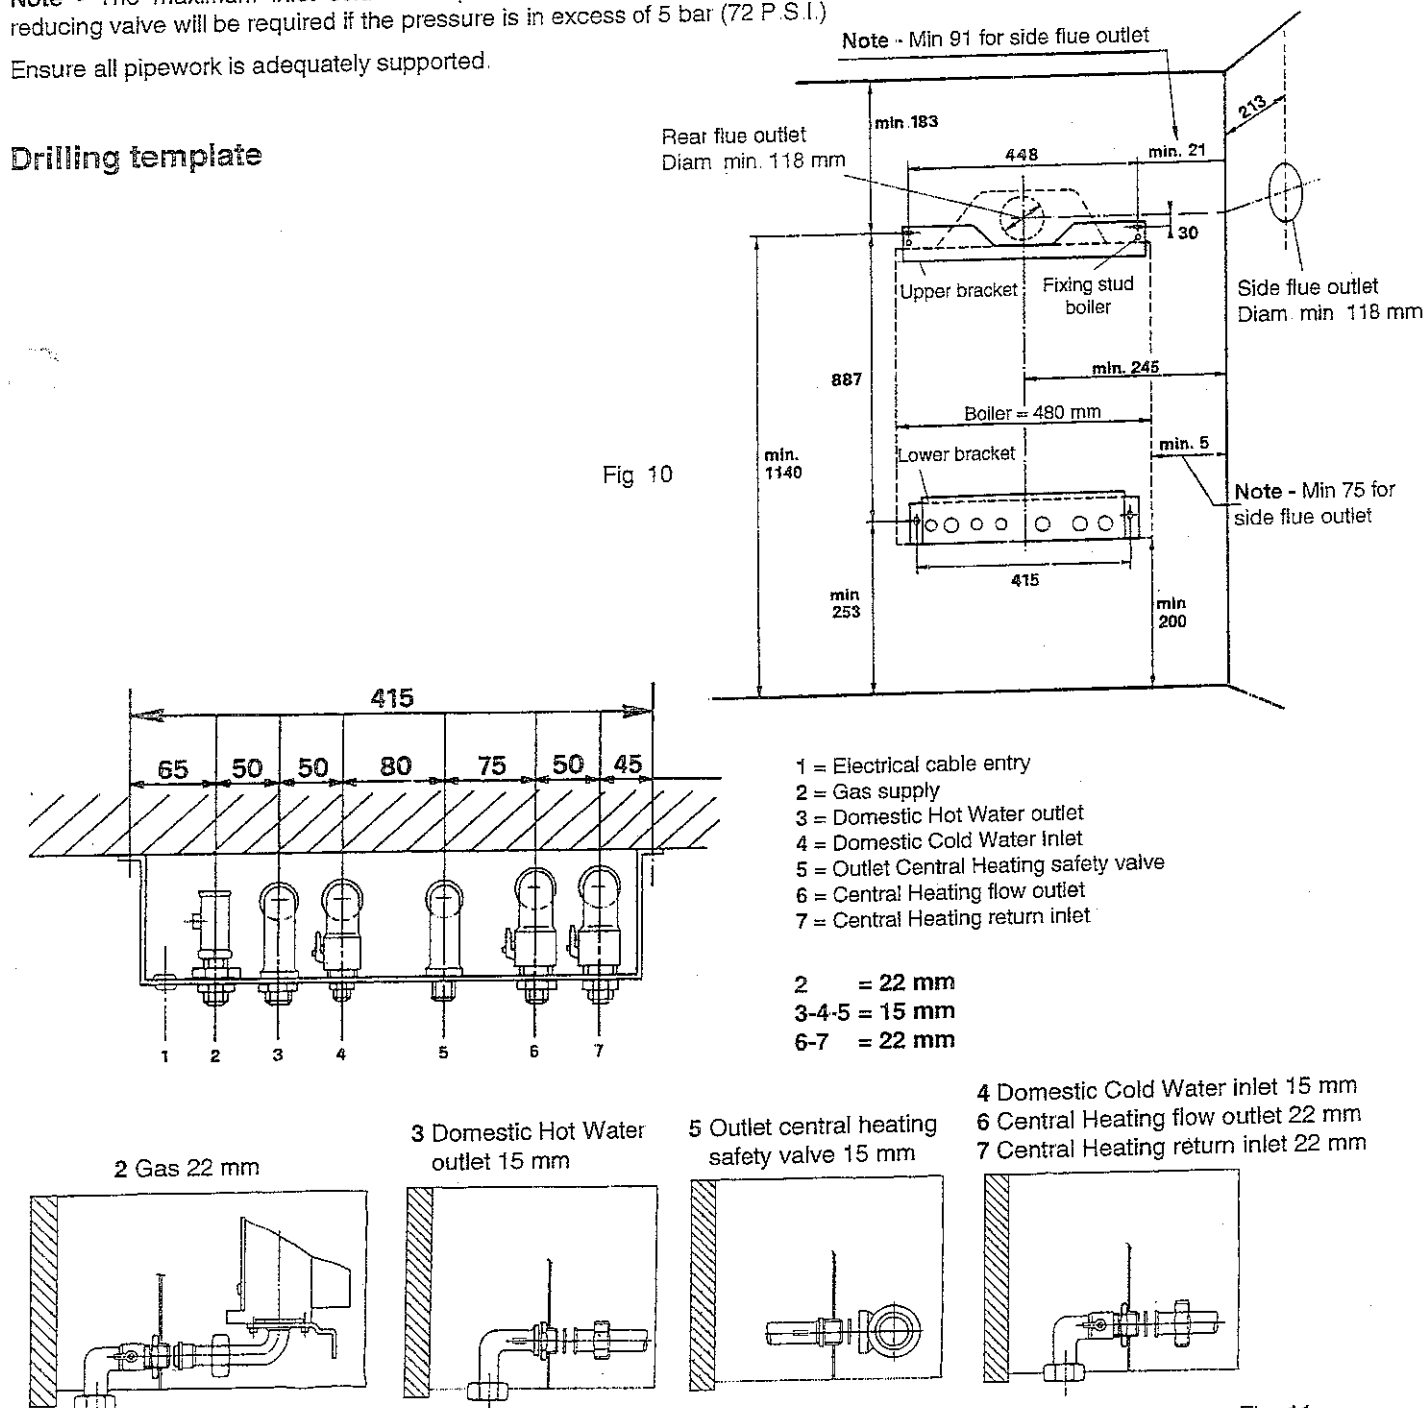

Fig 11
- 2.6 With the exception of the connection to the pressure relief valve, make all the water and gas connections to the jig bracket valves. Fully tighten (fig. 11). Water connections can be made with compression or capillary fittings (before the gas inlet to the boiler there must be at least 100 mm of straight before any bends).
Open the central heating flow and return cocks (fig. 11).